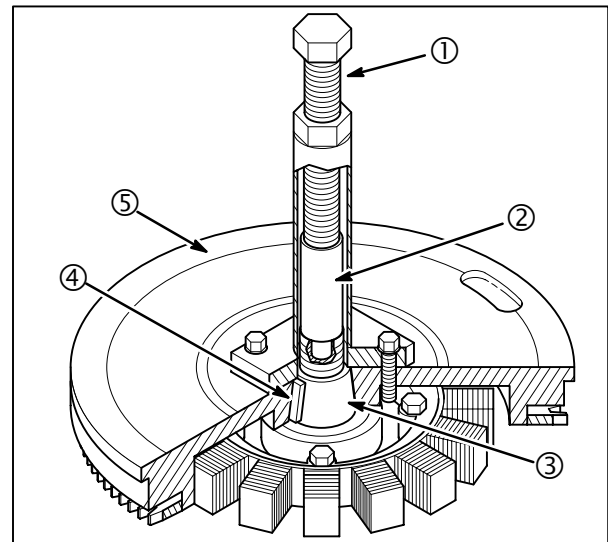

Fig. 19
• The flywheel magnets are VERY POWERFUL and can rapidly pull the flywheel to the engine. • Be certain the puller screw (1) is set to AT LEAST the height it was at when the flywheel was removed from the engine.
1. With pilot (2) installed to the crankshaft (3), place the flywheel with puller attached, onto the pilot, **Fig. 19**.
2. Align the flywheel keyway mark with the crankshaft key (4). Slowly loosen the flywheel puller screw (1) to lower the flywheel (5) into position over the stator. Be certain that the crankshaft key engages the flywheel keyway.